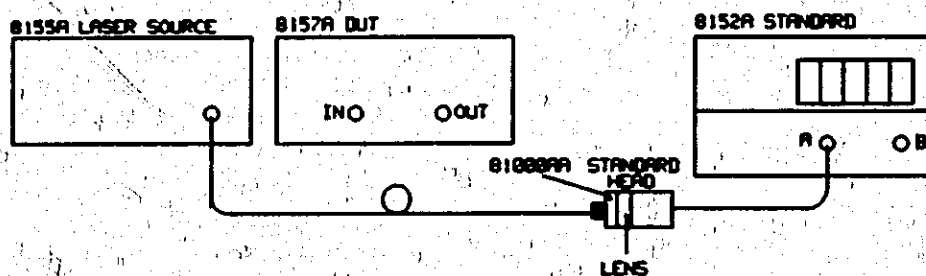

Figure 4-1. Reference Measurement Set-up
2. Connect the equipment as shown in Figure 4-1